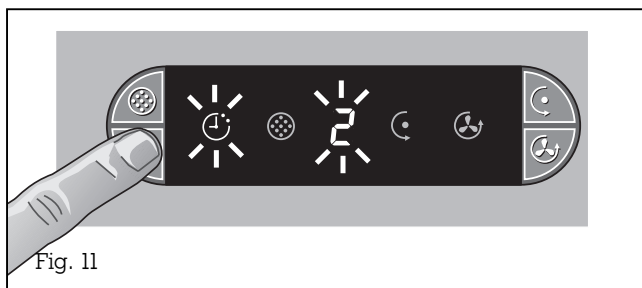

Fig. 11
- The ☺ (After-running) symbol and ventilation level 2 light up on the display (Fig. 11).